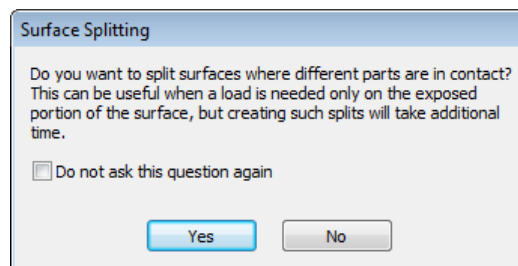

Figure 3-31 The Surface Splitting dialog box
11. Choose the **Yes** button from this window; the **Surface Splitting** dialog box is displayed, as shown in Figure 3-31.